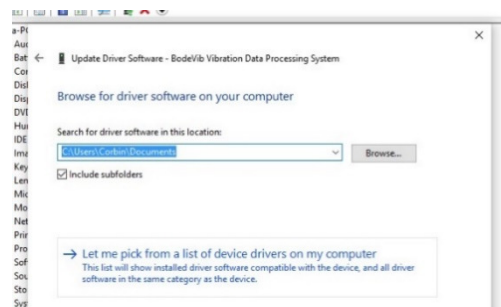

Fig 6. Dialog box showing option to select **Let me pick from a list...**
9. In the next dialog box that appears, select **Let me pick from a list of device drivers on my computer** as shown in Fig 6.